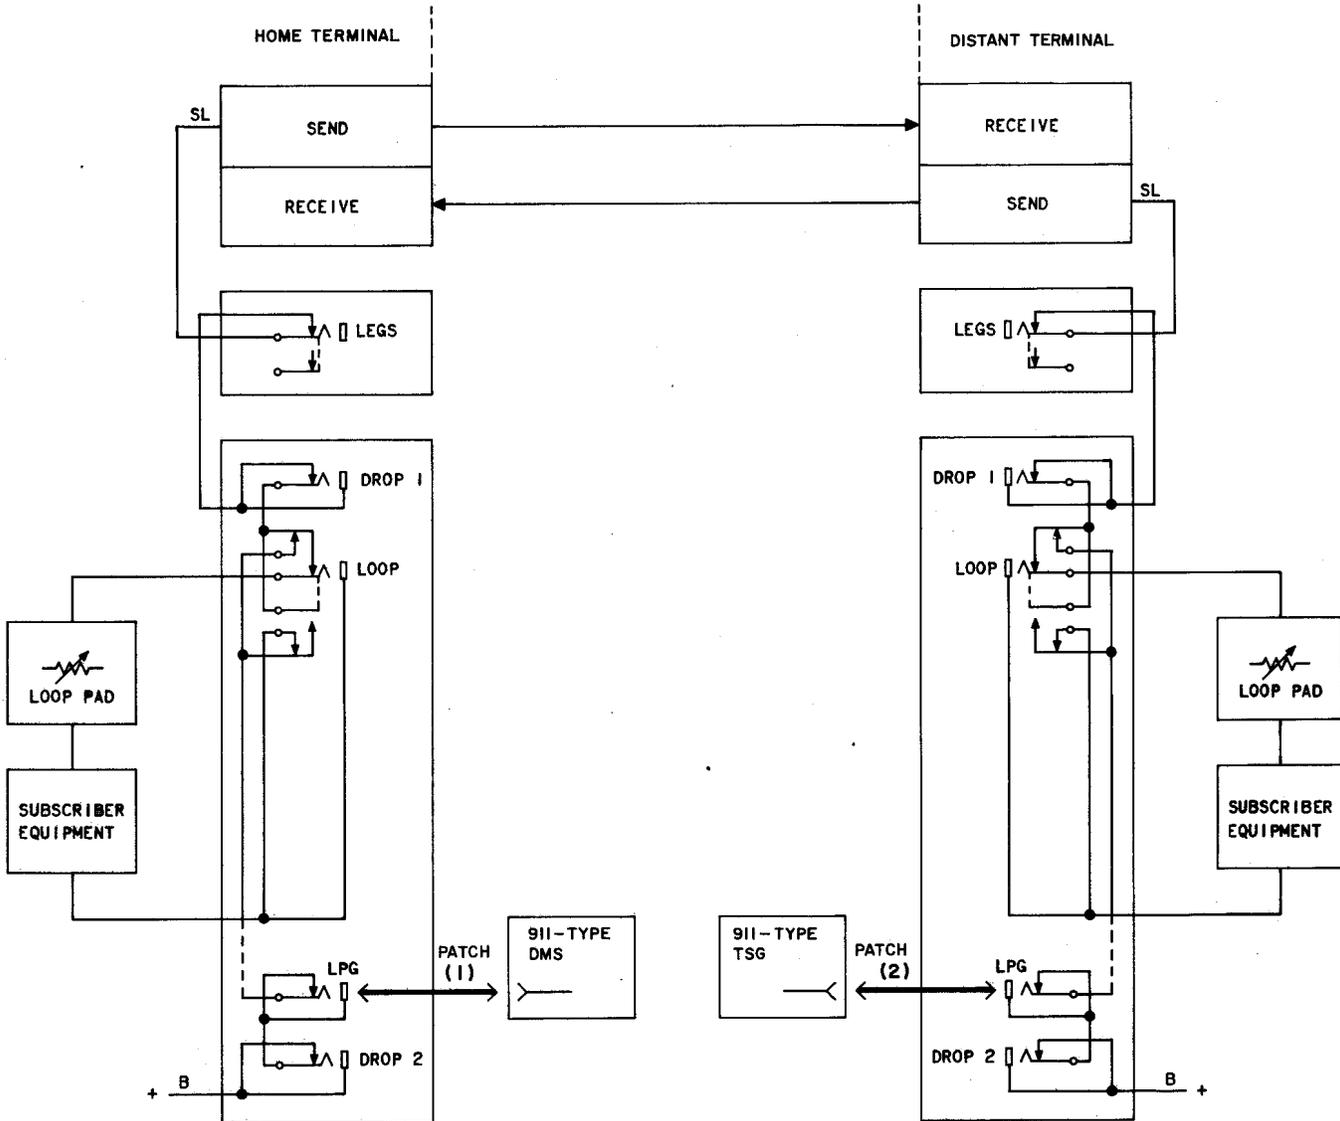

Fig. 12—Test O Connections—Typical Single Carrier Section—Neutral HDX Channel
#### Single Carrier Section (Fig. 12)
Connect the 911-type TSG output to the LPG jack [patch (2) of Fig. 12] associated with the channel terminal under test.
Connect the 911-type DMS input to the LPG jack [patch (1) of Fig. 12] associated with the channel terminal under test.
Connect the 911-type DMS input to the LPG jack [patch (1) of Fig. 12] associated with the channel under test.